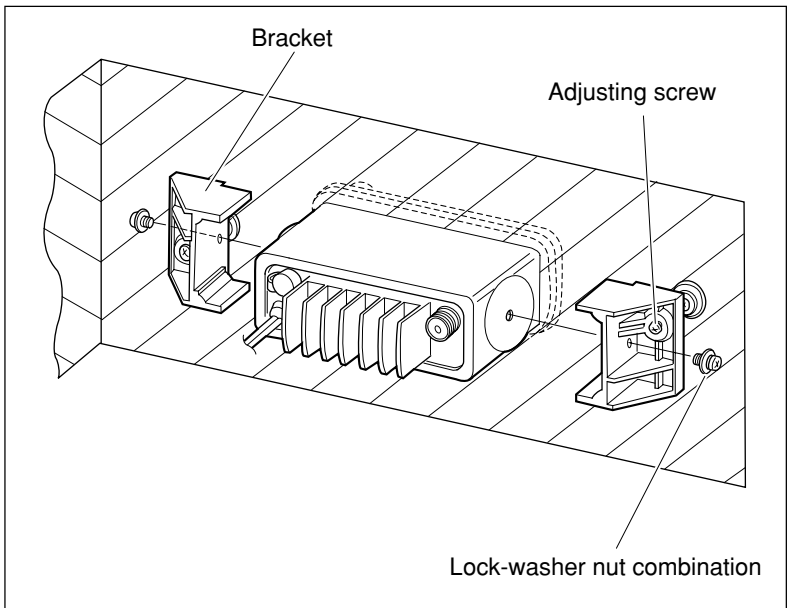

Figure 5. CMB16 Flush Mount Installation
4. Fasten the brackets to the sides of the transceiver with the lock washer nut combination, so that the mounting screw base faces the mounting surface (see Figure 5).